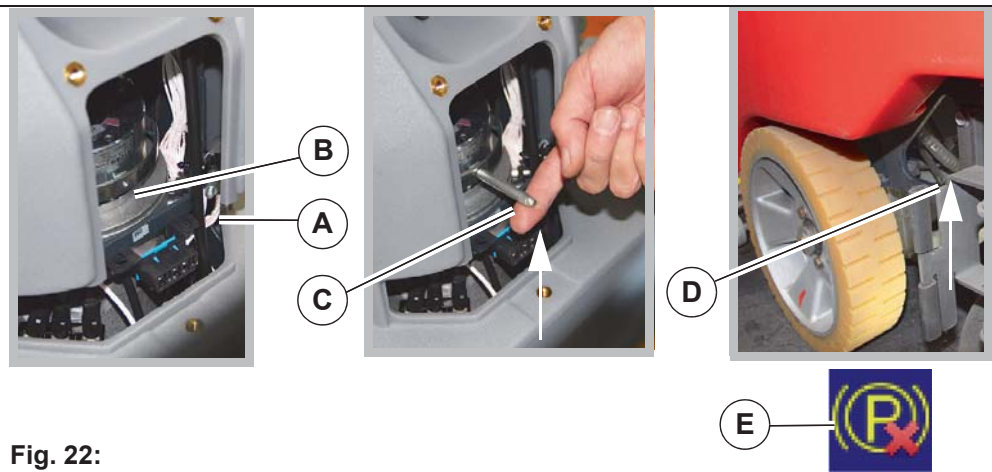

Fig. 22:
2. Remove the pin **Fig. 22-A** from the holder and screw it into the ring **Fig. 22-B**.
3. In order to unlock the parking brake, pull the pin upwards slightly **Fig. 22-C** and simultaneously push the machine.
If the machine has an X-AC drive, the rear wheel brake must also be unlocked. To do this, pull the lever on the right-hand side of the machine behind the rear wheel **Fig. 22-D** upwards until the lever engages.
Indication appears on the MFD **Fig. 22-E** when the rear wheel brake is taken out of service. The machine can no longer be driven!